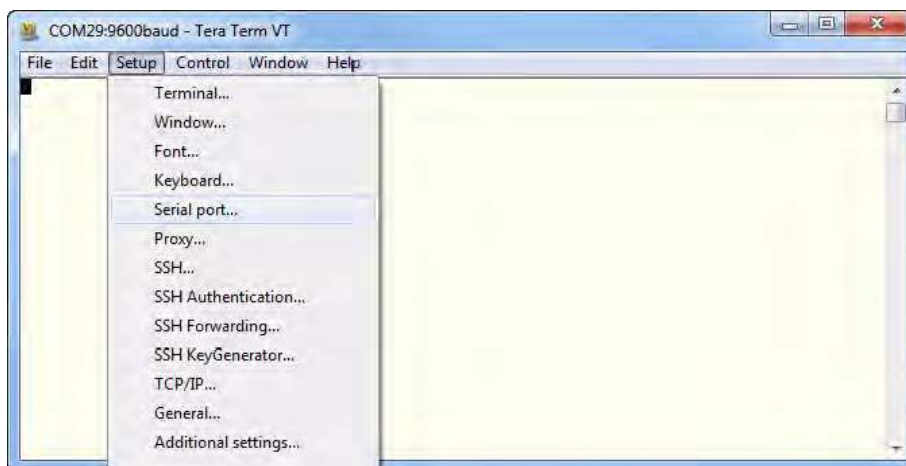

Figure 3. Setup Menu: Serial Port Selection
1. Launch the Tera Term Virtual Terminal Console application, and select **Serial Port...** from the **Setup** menu, as shown in Figure 3.